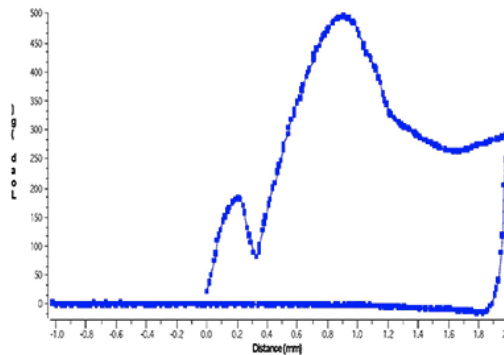

Figure 2
- Figure 2: Load vs. Distance graph shows the probe penetrating to 2 mm and then retracting.
Figure 2: Graph shows the load versus distance for the hardness of a facial powder. The probe starts a millimeter above the same, penetrates the sample to a distance of 2 mm after which it withdraws from the sample at a post-test speed of 4.5 mm/s and returns to the starting position above the sample surface.